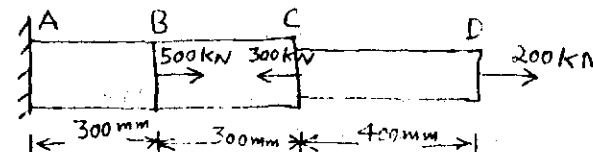

Fig.1
- b) Determine the deformation of the steel rod shown in Fig.1 under the given load. ($E = 200 \text{ GPa}$). (15)